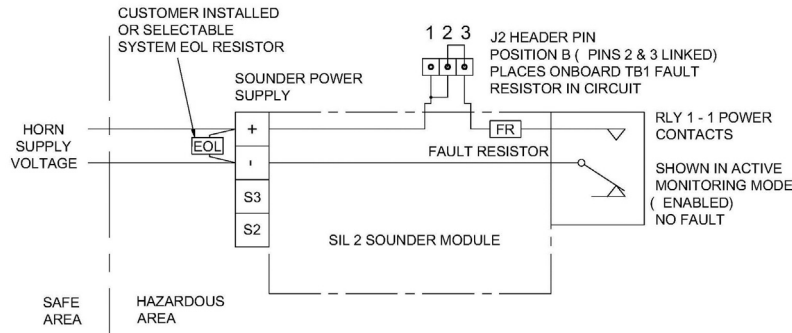

Figure 10 - Schematic of SIL 2 system wiring for fault detection in standby mode only – 2 wire installation
- A single unit topology is where only one unit is connected to the customer interface line, as shown in figure 10.